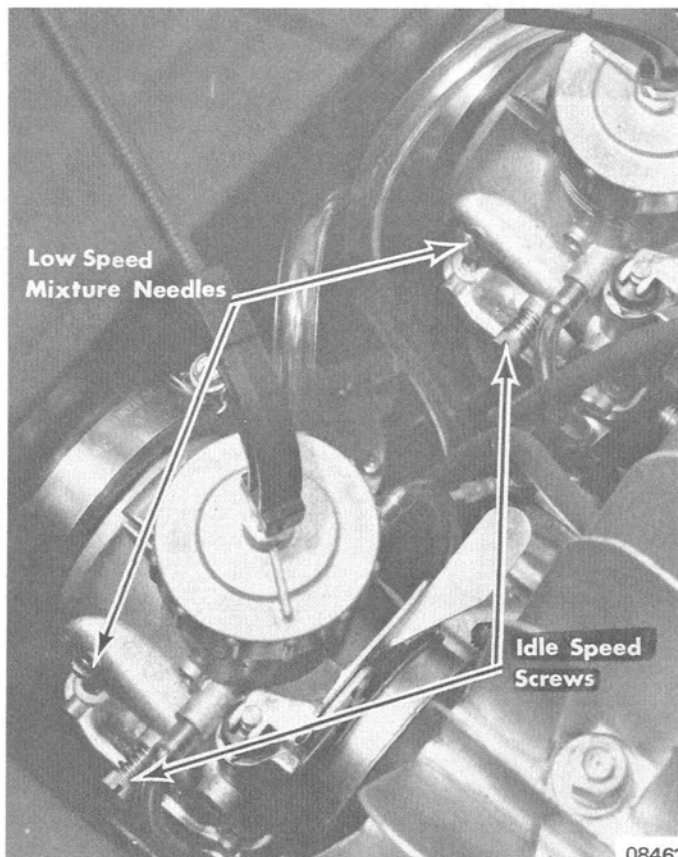

Figure 2. Sno-Twister Carburetors
1. Remove carburetor air intake silencer from carburetors and turn idle speed screws (Figure 2) on carburetors outward (counterclockwise) until they no longer contact throttle valves.
2. Initial low speed mixture adjustment for an out-of-adjustment carburetor (or a carburetor that has not been run on engine) is 1½ turns open on low speed mixture needle. (Figure 2)
- a. Turn idle speed screws (Figure 2) outward (counterclockwise) until they no longer contact throttle valves.
2. Adjust idle speed screws (Figure 2) to attain recommended idle RPM (refer to "Specifications" Section 8). Turn idle speed screws inward (clockwise) to increase RPM or outward (counterclockwise) to decrease RPM.